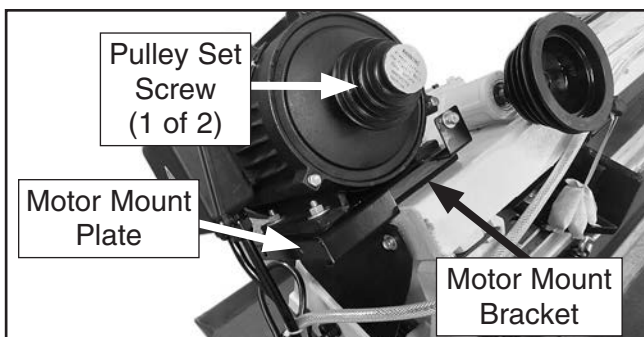

Figure 15. Motor installed on motor mount bracket.
3. Slide motor mount plate into motor mount bracket (see **Figure 15**).
9. Use straightedge to check pulley alignment. If pulleys are not aligned, loosen motor pulley set screws (see **Figure 15** on **Page 18**), adjust pulley, then re-tighten set screw.